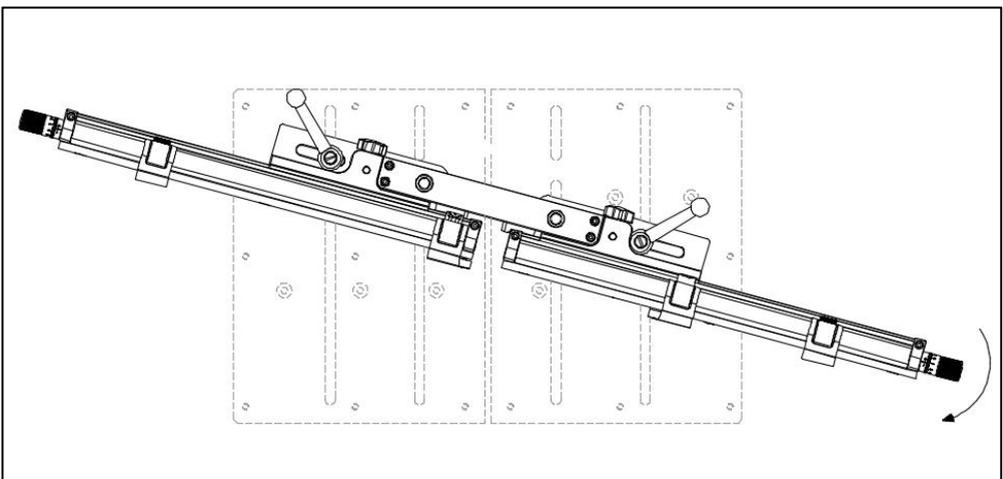

Fig. 9
2. As shown in Fig. 9, the fence can be used together as well with the bridge connected. Remove the two adjusting levels underneath the bridge and set them aside. Loosen the other two adjusting levels, and swing the two fences as a whole to set up the fence for an angled cut (swing range: 0°~30°).